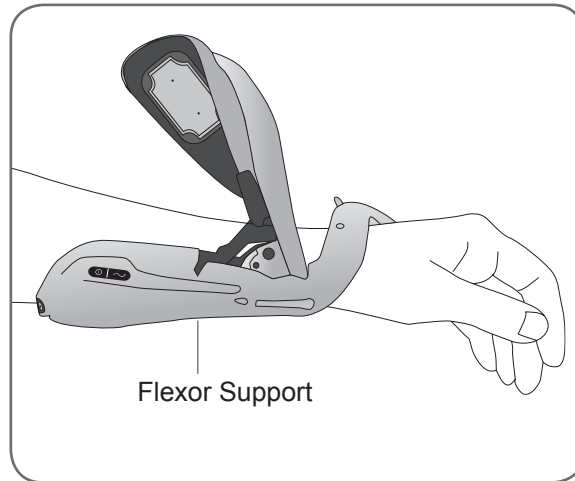

Figure 10-3: Removing the flexor support.
4. With the extensor wing open (See Figure 10-3), remove the flexor support from under your forearm.